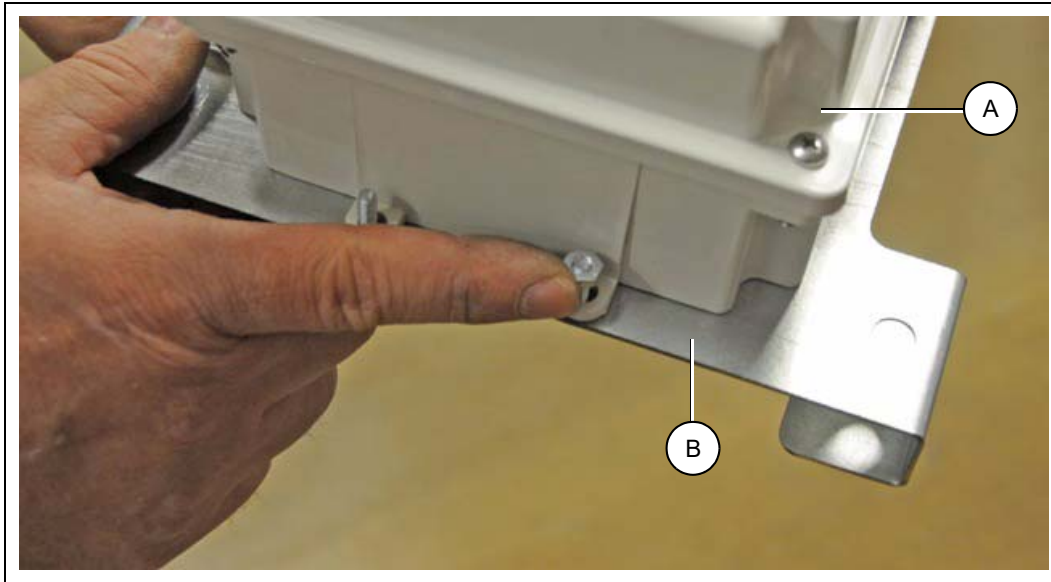

Figure 3F
1. Attach the control unit (A) to the control unit mounting bracket (B) (not provided). *(See Figure 3F.)*